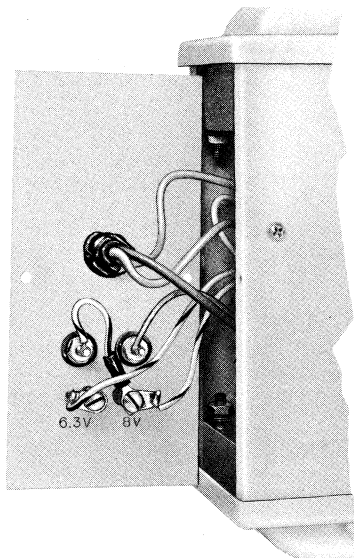

Fig. 10—Movable Lead Connected to 8-Volt Tap, KS-16940L1 V.R. Transformer With Cover Open
**4.03** Output taps of 6.3 and 8.0 volts are located on back of cover as shown in Fig. 10. The transformer is shipped with movable lead connected to 6.3-volt tap.